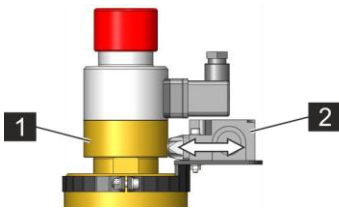

Fig. 100: Adjusting the switch
3. ➤ Pull the switch (Fig. 100/2) as far as possible from the housing of the electrical release device (Fig. 100/1).